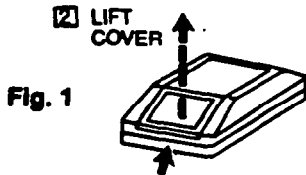

Fig. 1
1. Remove the front cover as shown in Figure 1.
1. Remove front cover by inserting a screwdriver blade in the groove between cover and base at the locations shown in Fig. 1, rotating blade to override snap fit, and then lifting cover off.